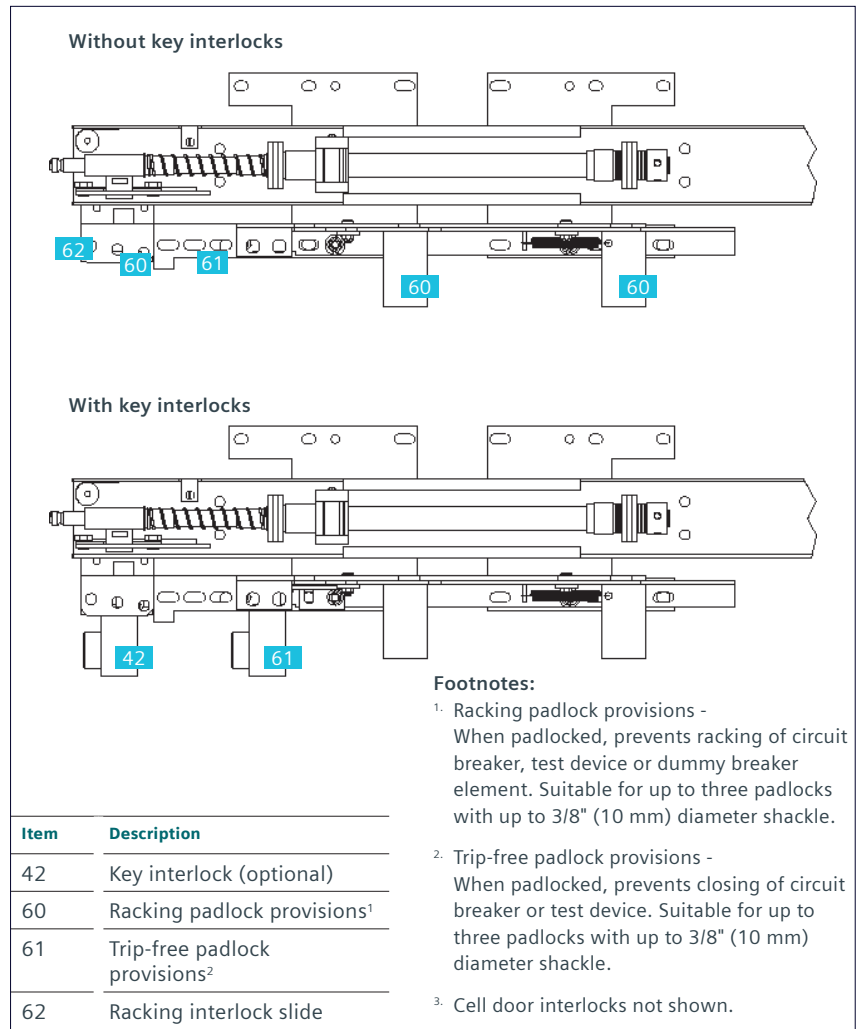

Figure 45: Racking mechanism and interlocks³
When inserting a circuit breaker into a cell, be sure that the racking mechanism is in the DISCONNECT position as shown in Figure 45: Racking mechanism shown in DISCONNECT position. In this position, the racking position indicator should show the letter "D" for DISCONNECT position.
The closed circuit breaker racking interlock is designed to prevent a circuit breaker from being racked from TEST to CONNECT and vice-versa with the primary contacts closed. Only an OPEN circuit breaker is to be moved between these positions (refer to Figure 45: Racking mechanism and interlocks).
The trip-free interlock slide has angle-shaped members (refer to Figure 45: Racking mechanism and interlocks) that project from the right side of the racking mechanism and engage an interlock member from the circuit breaker. The circuit breaker interlock extends down to prevent movement of the trip-free interlock slide with the circuit breaker closed. When engaged, the racking screw is not accessible to the racking crank until the circuit breaker has been opened.
The racking interlock slide (refer to Figure 45: Racking mechanism and interlocks, item 62) has provisions for three padlocks to prevent engagement of the racking crank to the racking screw. This allows locking of the circuit breaker in DISCONNECT, TEST or CONNECT positions. Key interlocking (refer to Figure 45: Racking mechanism and interlocks, footnote 3) can be provided for racking sequence interlocking of dummy circuit breakers, etc. When locked in DISCONNECT position,
In order to lock the circuit breaker trip-free in either TEST or CONNECT positions, the circuit breaker must be opened and the trip-free interlock slide assembly pushed forward to lift the trip-free roller on the circuit breaker. This position permits the use of a key interlock (refer to Figure 45: Racking mechanism and interlocks, note Footnote 2) or padlocks (up to three) to maintain the mechanism in trip-free position. The circuit breaker can be removed for servicing while interlocked in the trip-free position.